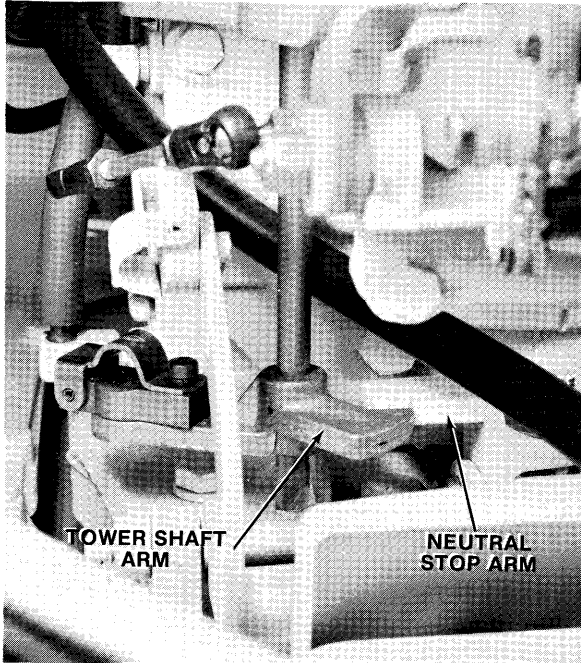

Figure 10—Towershaft Positioned Against Neutral Stop Arm
- B. Advance towershaft to neutral stop arm as shown in figure 10.
- B. Advance towershaft to neutral stop as shown in figure 10.